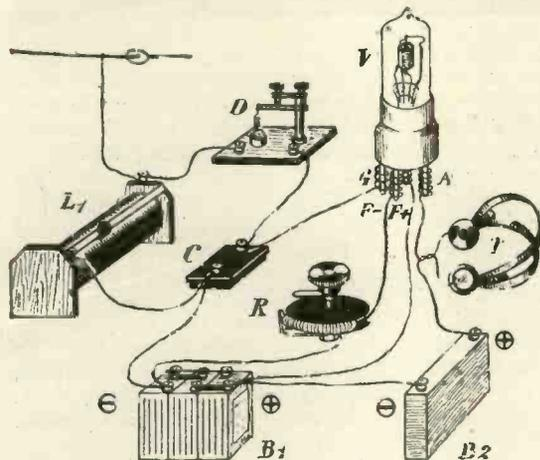
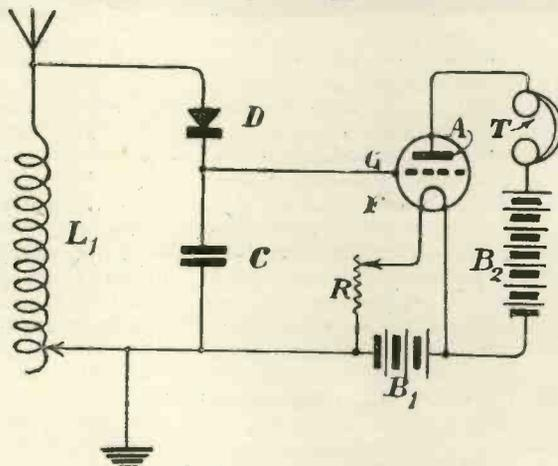

Fig. 5.—Crystal and valve receiver.
Fig. 6.—Simple valve amplifier circuit.
Fig. 5 shows the arrangement of the apparatus for receiving signals by the aid of both a crystal detector and a three-electrode valve.
**Draw a circuit corresponding to the pictorial arrangement of Fig. 5.**
Fig. 6 shows the circuit diagram of Fig. 5. Similar letters are used for the different parts.